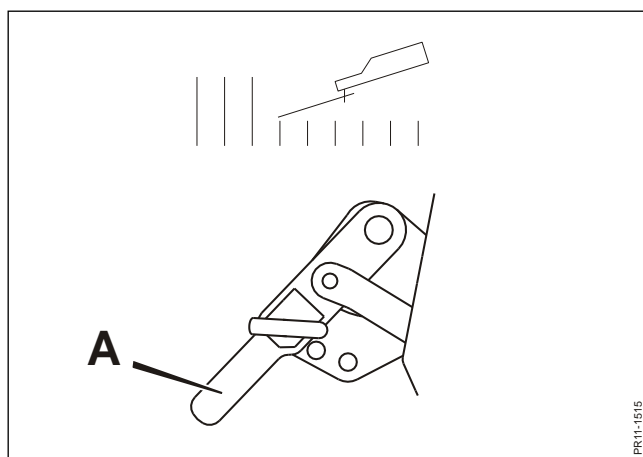

Fig. 2-13
**Fig. 2-13** In order to place the machine in working position, the lifting cylinder must be activated in order to ensure that the cutting unit is held by the lifting cylinder and not the transport lock. After that the handle **A** is placed in working position, as shown above.
**IMPORTANT:** The handle must always be in the position shown on fig. 2-13 during operation in the field.